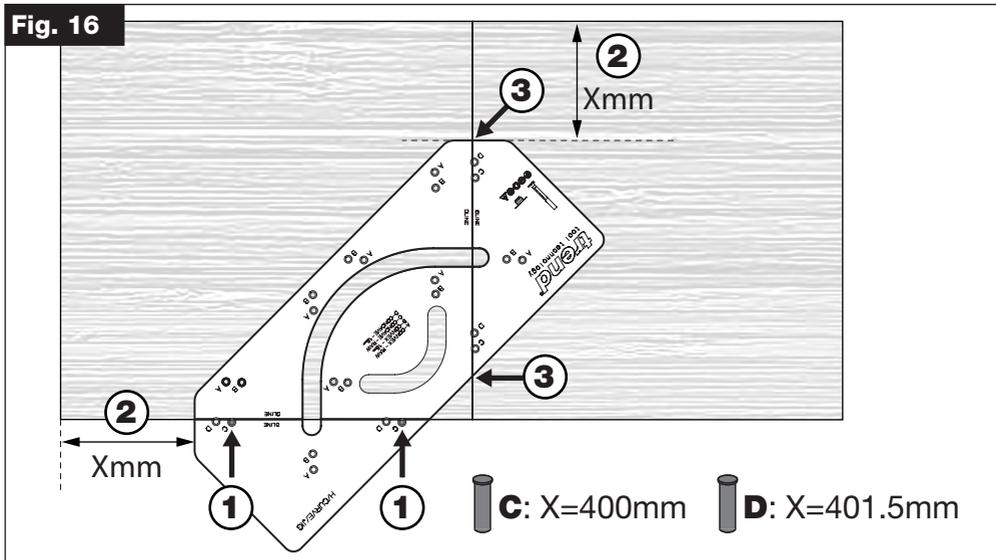

Fig. 17
- Clamp the jig to the worktop (**Fig. 17**)